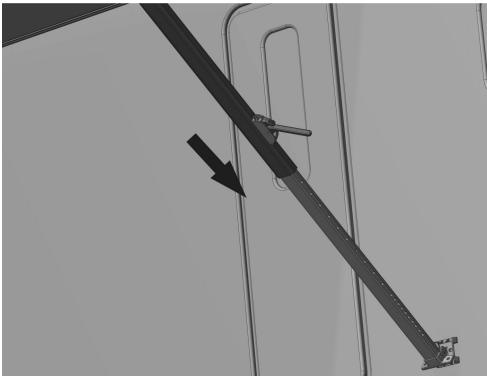

Figure D14
4.2.3 Lift the arm latch and press down the lock head, to retract the support arms. See (Figure D14)